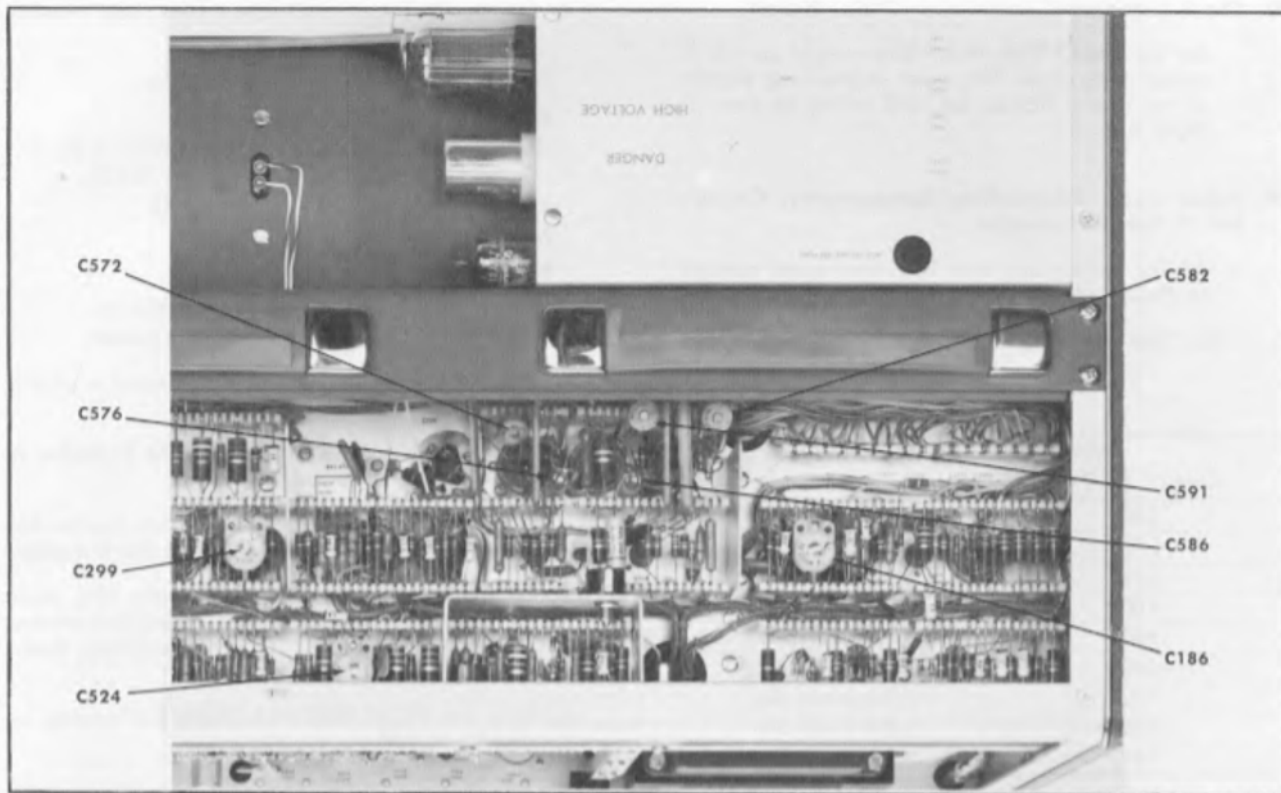

Fig. 5-13. Calibration adjustment locations.
- d. Adjust C186 (see Fig. 5-13) so the starting portion of the B trace is the same brightness as the starting portion of the A trace.
g. Check that C576 and C586 (see Fig. 5-13) slug-adjusting screws are about six turns above the metal wiper contacts of the capacitors.
i. Adjust C572 and C582 (see Fig. 5-13) for maximum center-sweep expansion. (Use a low-capacitance alignment tool when making the adjustments.) The two capacitors should be adjusted to nearly the same physical setting.
Adjust C591 (see Fig. 5-13) for best center-sweep linearity of 1 cycle/2 cm.